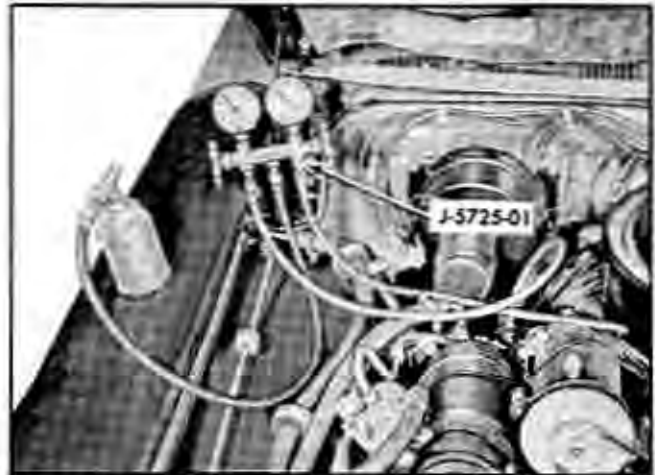

Fig. 6-57 Adding Refrigerant-12—Disposable Can Method
(1) Make sure the outlet valve on the J-6271 Fitz-All Valve is fully clockwise and attach the J-6271 to a "one pound" can of refrigerant as follows: back off the valve from the top of the retainer, slip the valve onto the can and turn the valve into the retainer until tight. DO NOT accidentally open outlet valve during this operation as turning the valve into the retainer punctures the top of the can to make it ready for charging.
(2) Connect center flexible line of gauge set to the fitting to the valve (Fig. 6-57).
(3) Start engine, move temperature control lever to full down position and place blower lever down for high speed. Operate engine for five minutes at 1500 RPM to stabilize system.
(4) With compressor operating slowly, open valve on refrigerant can and allow refrigerant to flow into system (through manifold gauge set) until liquid indicator clears up and immediately shut off valve at gauge set and on refrigerant can. Check weight of can and valve assembly and record.